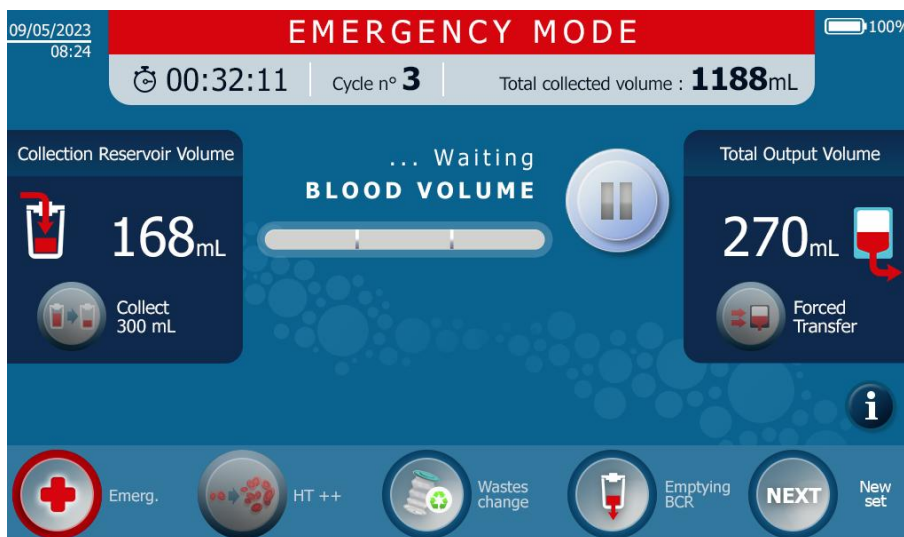

Figure 110: Emergency mode
- When the Emergency mode is activated, an active Emergency mode button  appears and this mode is indicated in the top banner (see Figure 110).